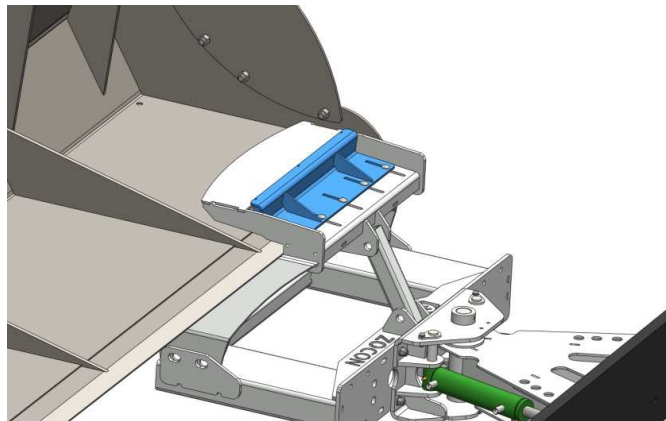

Figure 7.4.1
- Carefully close the clamp until it grips behind the grip plate, coloured blue in figure 7.4.1.